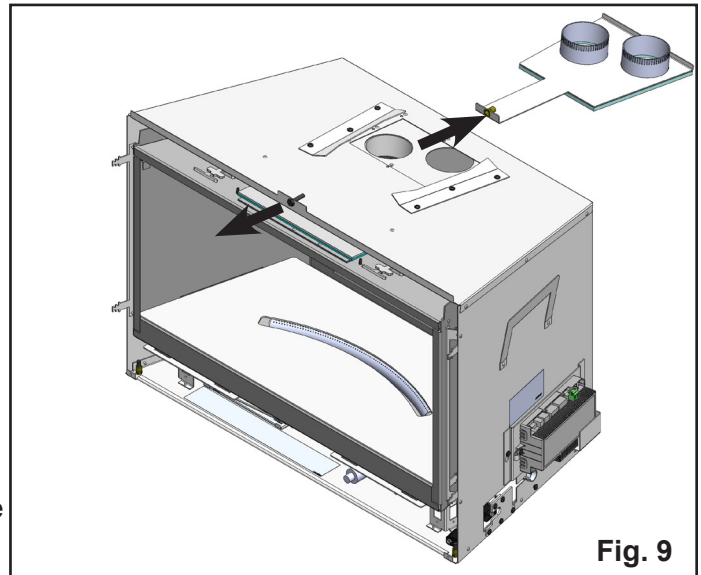

Fig. 9
1. Unthread the 1/4-20 bolt at the top of the Firebox Can (**Fig. 9**) and remove.